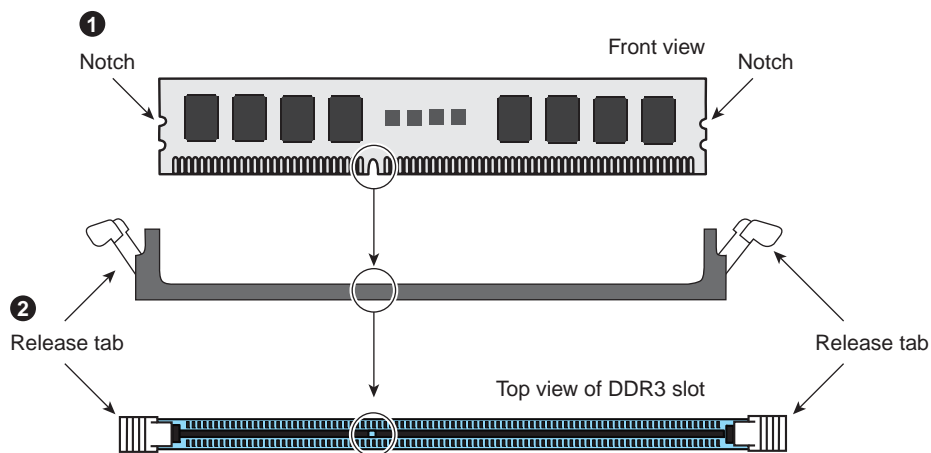

Figure 5-4 DIMM Installation Example
1. Insert the DIMM module vertically and press down into its slot until it snaps into place. Pay attention to the alignment notch at the bottom of the module to avoid installing incorrectly (see Figure 5-4). Insert the desired number of DIMMs into the memory slots, beginning with DIMM #1A and DIMM #2A, then DIMM #3A and DIMM #4A, etc. (see Table 5-1 on page 38 for 16-DIMM placement). Always spread DIMMs across all banks for each CPU. Gently press down on the DIMM module until it snaps into place in the slot. Repeat for all modules.
- To remove a DIMM module, use your thumbs to gently push the release tabs near both ends of the module (see Figure 5-4). This should release it from the slot.